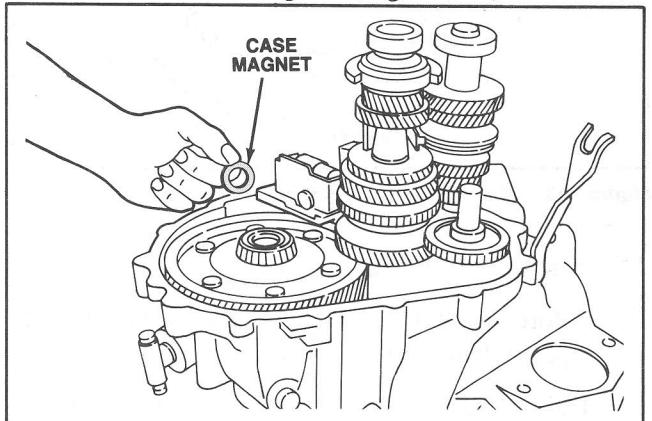

Figure 131 Case Magnet Installation
23. Install the case magnet. (Figure 131).